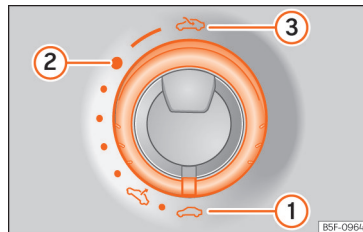

Fig. 12 On the internal roof: turn the knob to open and close
- Open: turn the switch to position »» » Fig. 12 ❸.
- Comfort position: turn the switch to position »» Fig. 12 ②.
- Close: turn the switch to position »» Fig. 12 ①.